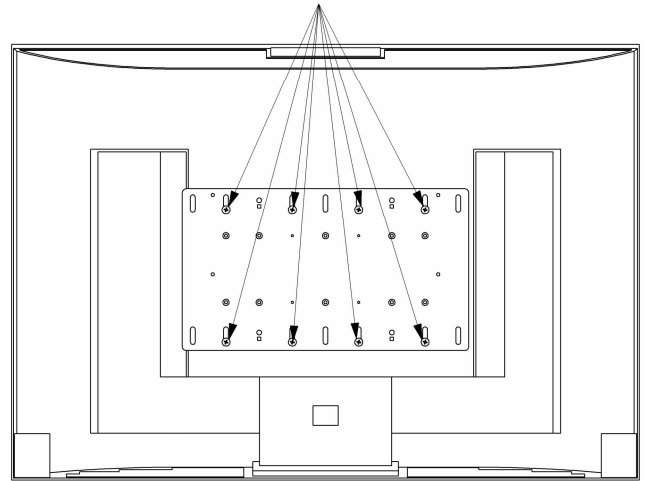

Figure 11. Display with 300mm x 200mm Hole Pattern
1. Select eight Phillips head M6 screws (110) from Bag B and eight spacers (140) from Bag C.
2. Attach the interface bracket (20) using the hole-pattern on the back of your display as shown in Figure 11.